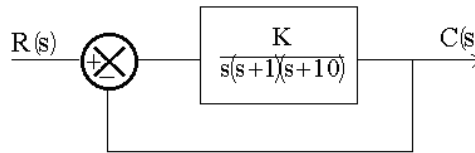

Fig. 4
Q.18 Consider the system shown in Fig.4. Draw the Bode-diagram of the open-loop transfer function $G(s)$ with $K = 1$. Determine the phase margin and gain margin. Find the value of K to reduce the phase margin by 10° . (14)